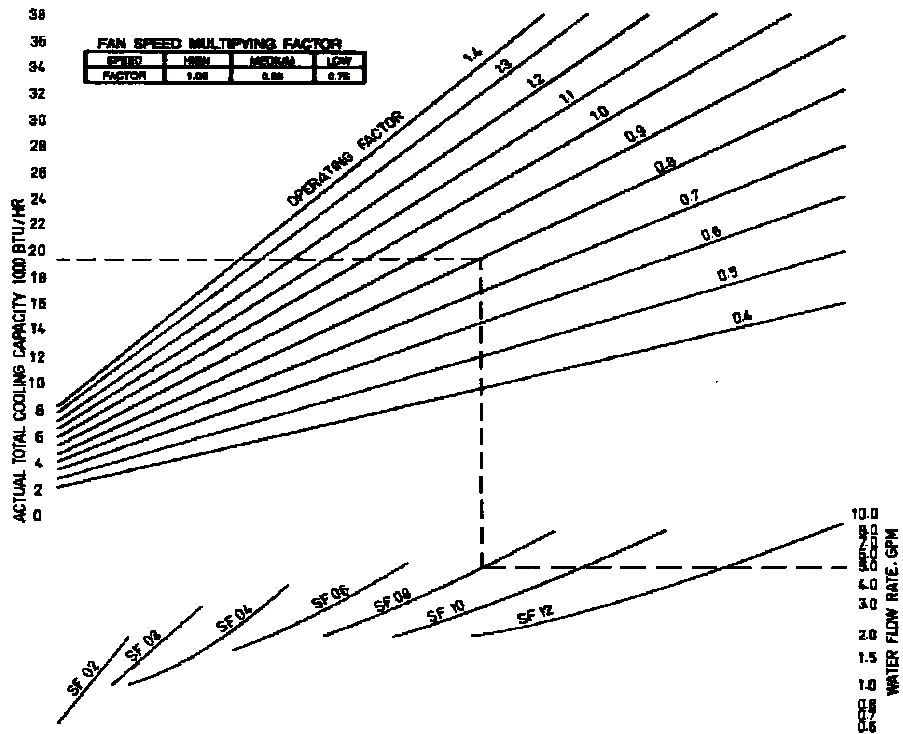

FIGURE 2. WET RATING (COOLING AND DEHUMIDIFICATION), TOTAL COOLING CAPACITY
FIGURE 2 is used to find the sensible cooling capacity as a function of water flow rate (GPM), the operating factor (OF), unit size, entering air dry bulb temperature and entering water temperature.